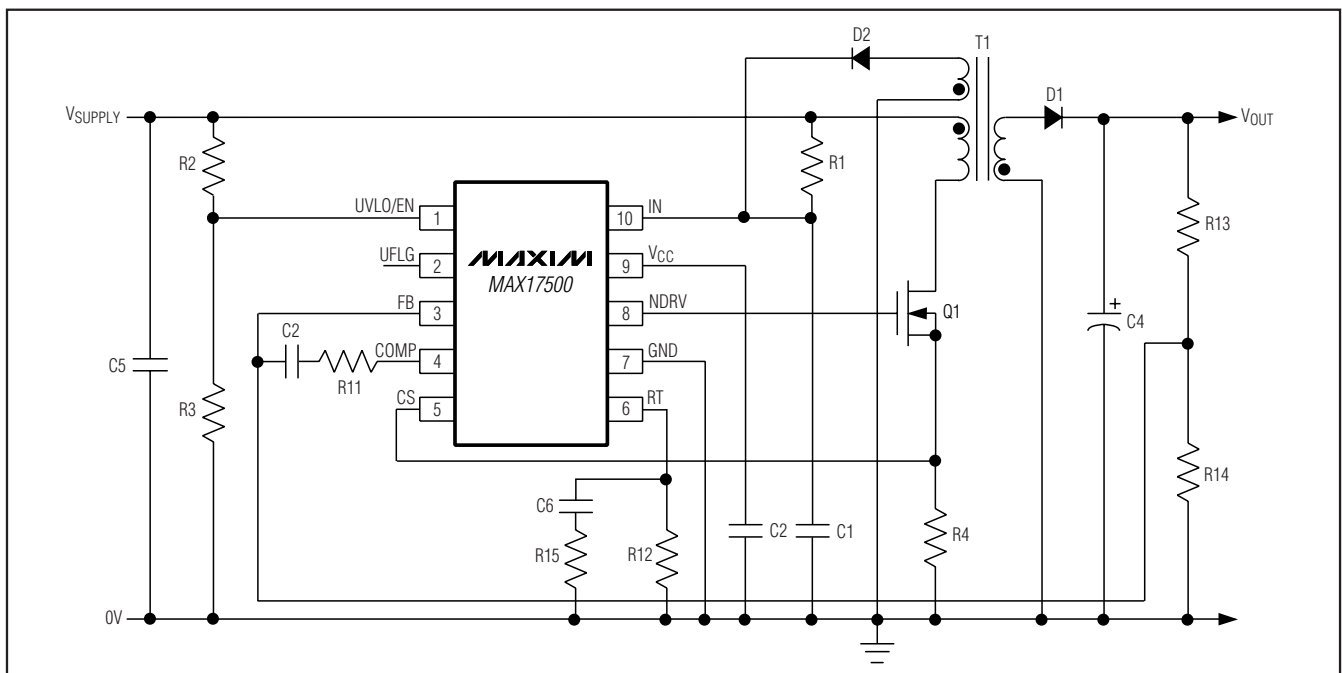

Figure 1. Nonisolated Power Supply with Programmable Input-Supply Start Voltage
- Note 2:** The MAX17500 is intended for use in universal input power supplies. The internal clamp circuit at IN is used to prevent the bootstrap capacitor ( $C_1$  in Figure 1) from charging to a voltage beyond the absolute maximum rating of the device when UVLO/EN is low (shutdown mode). Externally limit the maximum current to IN (hence to clamp) to 2mA maximum when UVLO/EN is low. Clamp currents higher than 2mA may result in a clamp voltage higher than 30V, thus exceeding the absolute maximum rating for IN. For the MAX17499, do not exceed the 24V maximum operating voltage of the device.
The MAX17500 is well suited for universal input (rectified 85V AC to 265V AC) or telecom (-36V DC to -72V DC) power supplies. The MAX17499 is well suited for low-input-voltage (9.5V DC to 24V DC) power supplies. The devices include an internal clamp at IN to prevent the input voltage from exceeding the absolute maximum rating (see Note 2 at the end of the *Electrical Characteristics* table). The input is clamped when the devices are started with a bleed resistor (R1 in Figure 1) from a high input voltage and the UVLO/EN input is low. The clamp can safely sink up to 2mA current.
Power supplies designed with the MAX17500 use a high-value startup resistor, R1, that charges a reservoir capacitor, C1 (see Figure 1). During this initial period, while the voltage is less than the internal bootstrap UVLO threshold, the device typically consumes only 50 $\mu$ A of quiescent current. This low startup current and the large bootstrap UVLO hysteresis help to minimize the power dissipation across R1 even at the high end of the universal AC input voltage (265V AC).
Use this UVLO/EN input to program the input-supply start voltage. For example, a reasonable start voltage for a 36V to 72V telecom range is usually 34V. Calculate the resistor-divider values, R2 and R3 (see Figure 1) by using the following formulas:
point, the internal regulator begins charging C2 (see Figure 1). Only 50 $\mu$ A of the current supplied through R1 is used by the MAX17500; the remaining input current charges C1 and C2. The charging of C2 stops when the  $V_{CC}$  voltage reaches approximately 9.5V, while the voltage across C1 continues rising until it reaches the wake-up level of 21.6V. Once  $V_{IN}$  exceeds the bootstrap UVLO threshold, NDRV begins switching the MOSFET and transfers energy to the secondary and tertiary outputs. If the voltage on the tertiary output builds to higher than 9.74V (the bootstrap UVLO lower threshold), then startup has been accomplished and sustained operation commences. If  $V_{IN}$  drops below 9.74V before startup is complete, the device goes back to low-current UVLO. In this case, increase the value of C1 to store enough energy to allow for the voltage at the tertiary winding to build up.
The MAX17499A/MAX17500A and MAX17499B/MAX17500B have programmable output switching frequencies from 25kHz to 625kHz and 12.5kHz to 625kHz, respectively. Use the following formulas to determine the appropriate value of resistor R12 (see Figure 1) needed to generate the desired output switching frequency ( $f_{sw}$ ) at the NDRV output:
where R12 is the resistor connected from RT to GND (see Figure 1).
Connect an RC network in parallel with R12 as shown in Figure 1. The RC network should consist of a 100nF capacitor, C6, (for stability) in series with resistor R15, which serves to further minimize jitter. Use the following formula to determine the value of R15:
The devices include an internal error amplifier to regulate the output voltage in the case of a nonisolated power supply (see Figure 1). For the circuit in Figure 1, calculate the output voltage using the following equation:
The current-sense resistor ( $R_4$  in Figure 1), connected between the source of the MOSFET and ground, sets the current limit. The current-limit comparator has a voltage trip level ( $V_{CS}$ ) of 1V. Use the following equation to calculate the value of  $R_4$ :
The bypass capacitor at  $I_N$ ,  $C_1$ , supplies current immediately after the MAX17500 wakes up (see Figure 1). The size of  $C_1$  and the connection configuration of the tertiary winding determine the number of cycles available for startup. Large values of  $C_1$  increase the start-up time but also supply gate charge for more cycles during initial startup. If the value of  $C_1$  is too small,  $V_{IN}$  drops below 9.74V because NDRV does not have enough time to switch and build up sufficient voltage across the tertiary output, which powers the device. The device goes back into UVLO and does not start. Use a low-leakage capacitor for  $C_1$  and  $C_2$ .